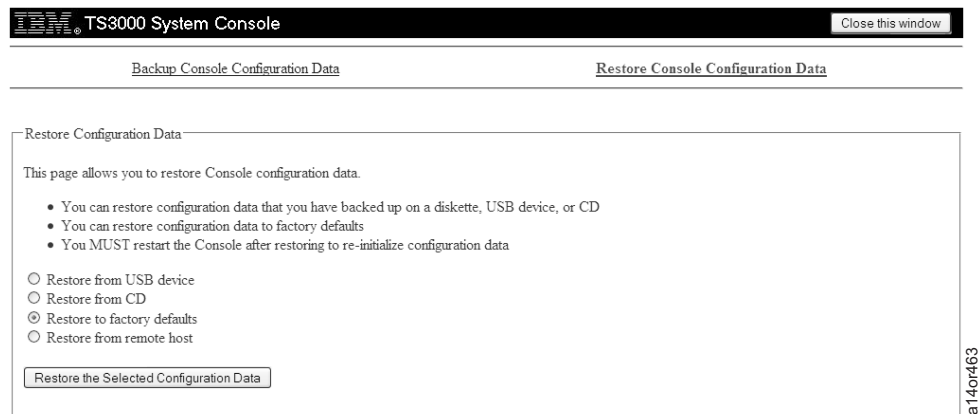

Figure 2-99. Restore Configuration Data Screen
6. Click **Restore Console Configuration Data**. You see the screen shown in Figure 2-99.